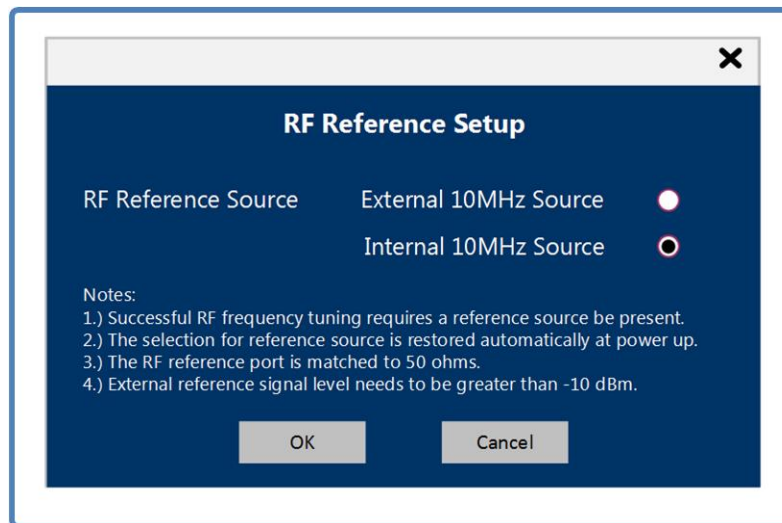

Figure 4-5 HW Setup – RF Reference Setup Dialog Window
- iv. *RF Reference* - Selection of this item allows the user to setup the RF synthesizer input source. Refer to the Figure 4-5. The LS-28-DRSM contains an internal 260ppb temperature compensated 10MHz reference source for this purpose. However, the design also allows the user the ability to select an external 10MHz source to synchronize the RF synthesizers with either a common reference source or to synchronize multiple receivers. This process is occasionally required for very narrow bandwidth, low data rate reception.